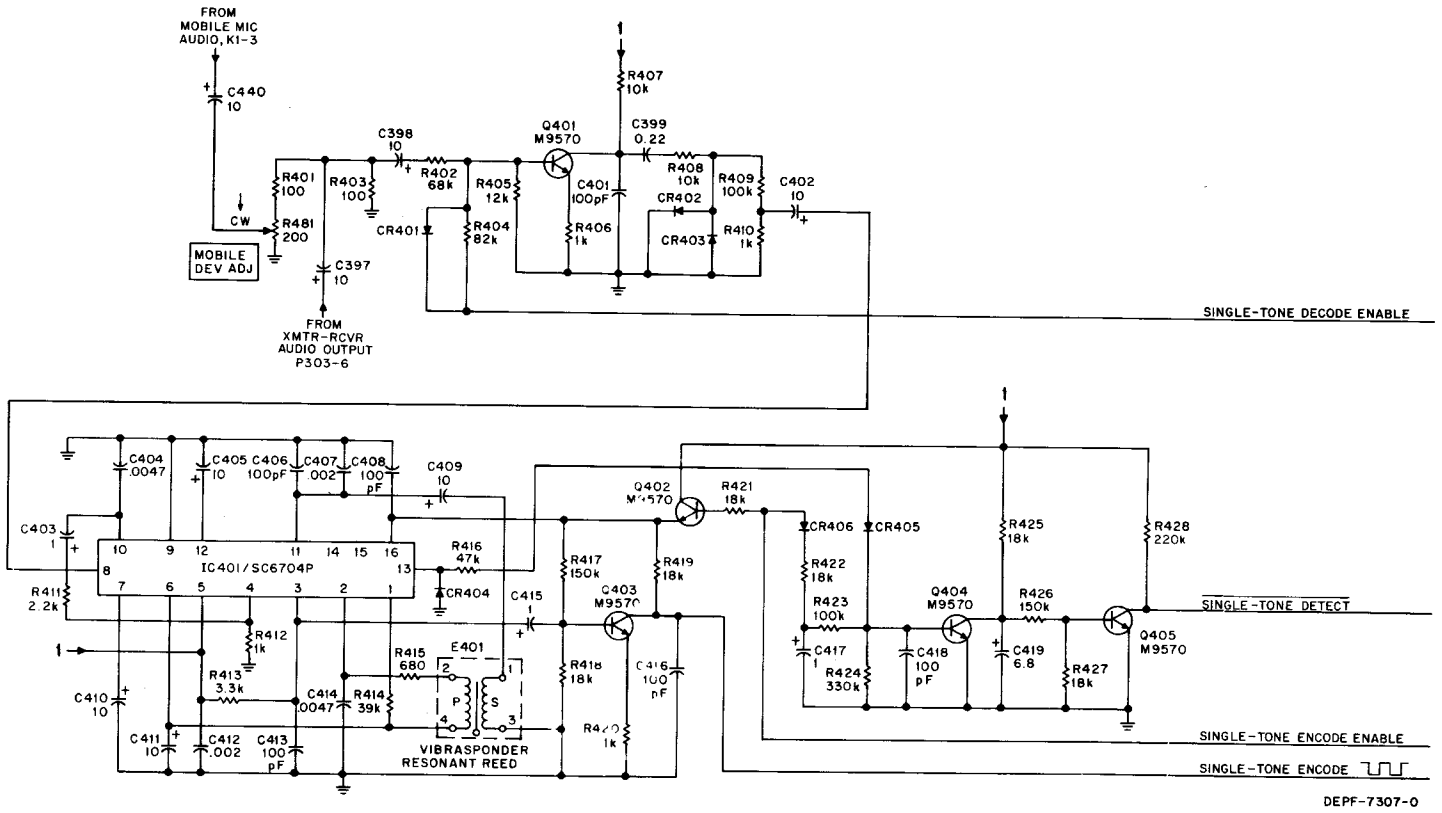

Figure 24. Single-tone Encoder/Decoder Circuit
c. Single-tone Encoder/Decoder Circuit (Refer to Figure 24)